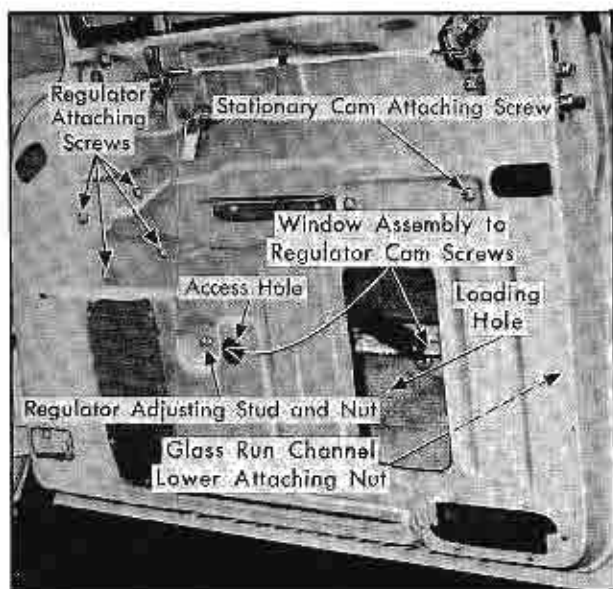

Fig. 3-37 Door Window Assembly (Sedan)
1. Loosen stationary cam channel rear attaching screw, Fig. 3-37, and adjust rear end of cam channel up or down as required; then, tighten screw. This will correct a condition where the
2. Loosen the ventilator division channel lower adjusting stud, Fig. 3-37, move channel fore or aft, whichever is required.
3. Loosen the glass run channel lower attaching nut, Fig. 3-37, and position channel in or out as required.
3. Remove larger loading hole cover, and tape from access hole, Fig. 3-37.
5. Remove four screws securing window assembly to regulator cam, Fig. 3-37.
3. Remove four screws securing window assembly to regulator cam, Fig. 3-37.
5. Remove ventilator division channel lower adjusting stud and nut, Fig. 3-37.
6. Remove stationary cam attaching screw Fig. 3-37, and remove cam.
8. Remove regulator attaching screws, Fig. 3-37, and carefully remove regulator from between door panels.